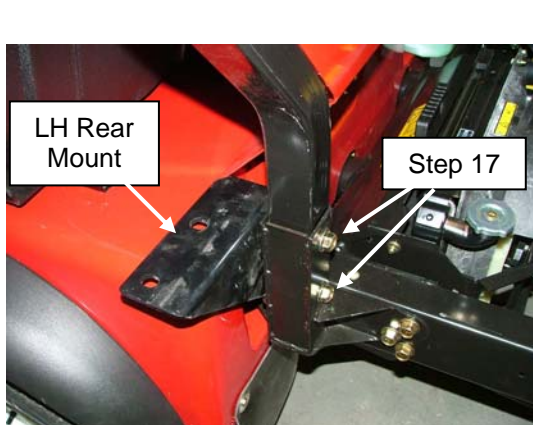

Figure 5
19. Install rear mounts to vehicle frame by removing and re-installing the (4) roll bar bolts and nuts. Hardware may be left at a snug fit, leaving just loose enough to adjust during installation of cab. **Be sure hardware is tightened after cab is installed, later in the instructions.** See Figures 5 & 6.